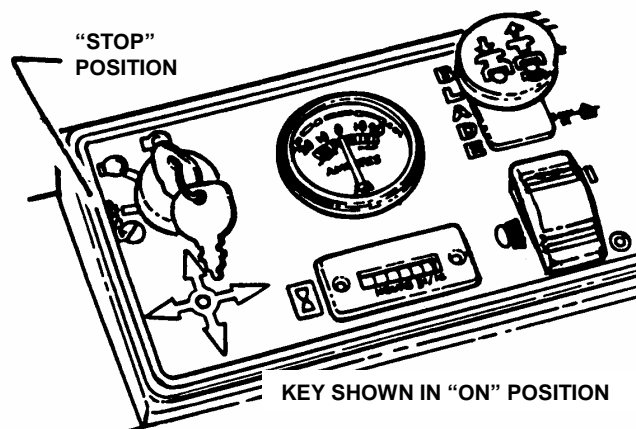

FIGURE 2.5
6. Turn key to the start position until engine starts. See Figure 2.5.
1. Stop engine by turning key to "STOP" position. Move engine speed control to the Turtle "SLOW" position and turn key to "STOP". See Figure 2.5.